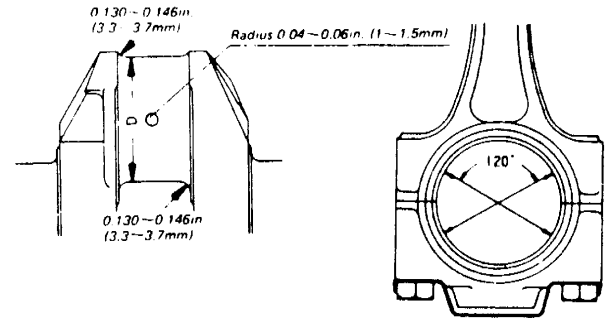

Fig. 28. Crankpin for Undersize Bearing
(3) In the event that the crankpins become worn and are no longer serviceable, undersized bearings may be used. When installing the undersize bearings observe the following precautions:
e) To determine the running clearance, assemble the connecting rod, bearing cap and bearing as described in section 2 and measure the diameter anywhere within the 120° angle indicated in Fig. 28 and subtract the crankpin diameter from this figure.